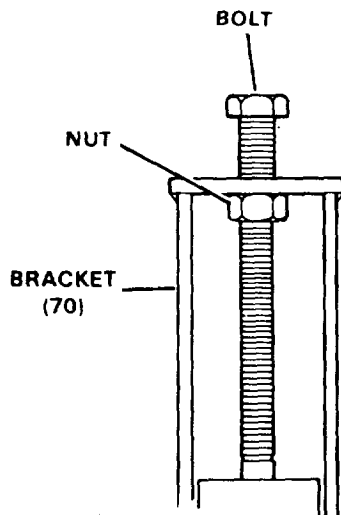

Figure 8D-4. Assembly Bolt
INSPECTION AND REPAIR. Prior to installation of the brake bands on the drum, check and repair the brake components as follows (see Figure 8D-5):
- A. Remove capscrews (68) and lockwasher (69) from cylinder (66). Remove the cylinder and spacer (67) from the bracket.
- 6. Install a 3/4 x 8 inch bolt with nut into the hole at the top of bracket (70) as illustrated in Figure 8D-4.